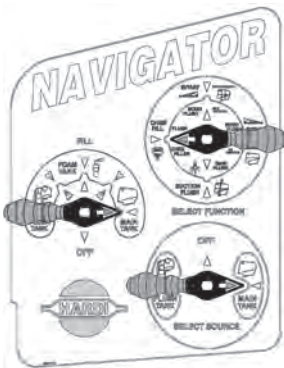

Fig 52
- 2 With the SELECT SOURCE handle aligned with MAIN TANK, start the pump and operate all controls, enabling the liquid to come in contact with all the components. Remember to briefly operate the CHEM FILL FLUSH controls to neutralise any chemical residue in the chemical filling system, (See Fig 52 below and GRANNI POT MANUAL).